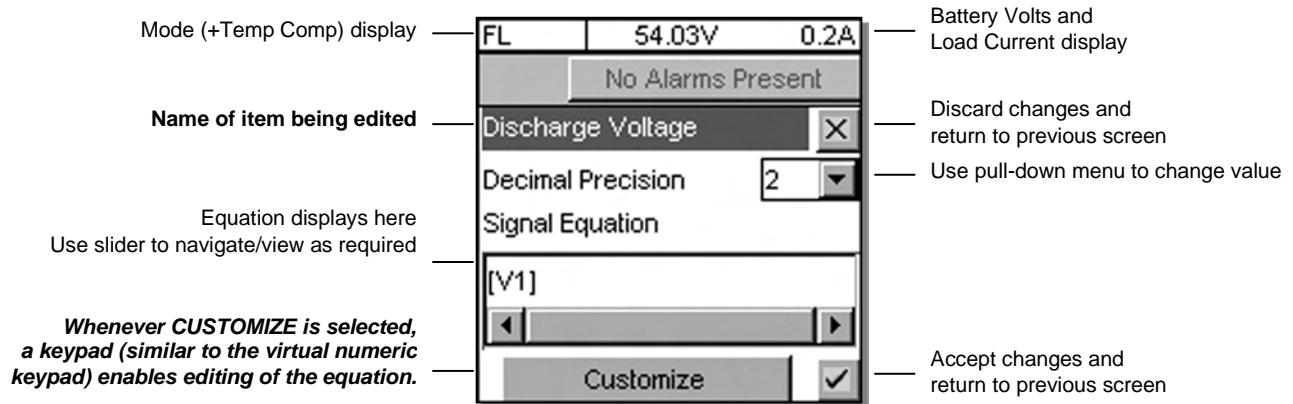

Figure 96–Screen showing example of item to be edited/customized
When configuring Alarms (Section 6.5.3), Signals (6.6.2), or Controls (0), an option to CUSTOMIZE will be presented at the bottom of the screen, see Figure 96 below. This enables the Supervisor to program separate triggering equations into the CXC software. The equations may reference any combination (up to 16) of the analog inputs, digital inputs, virtual inputs, and alarms (such as Load Voltage shown below) utilizing logical and arithmetic arguments that simulate the functionality of a programmable logic controller (PLC).